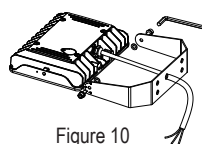

Figure 10
**Step 2:** Using an Allen key (5/16), disassemble the universal bracket into three main parts: "U" shaped part, upper knuckle, and lower knuckle.
**Step 3:** Using an Allen key (3/16), install the "U" shaped bracket on the two side threaded holes, with the screws provided. Pull the wire through the middle hole. (Figure 10)